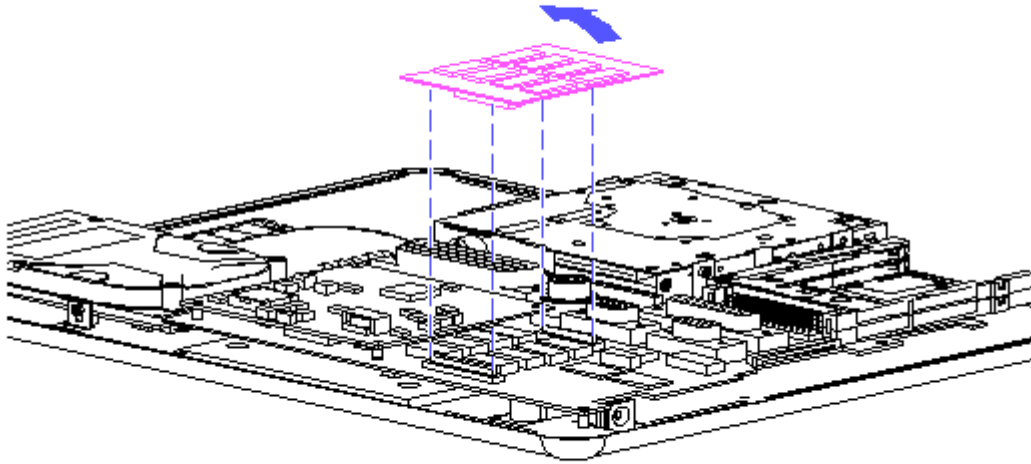

Figure 3-53. Removing the Memory Board
2. Apply slight pressure to mate the connectors and position the memory board in place (Figure 3-53).